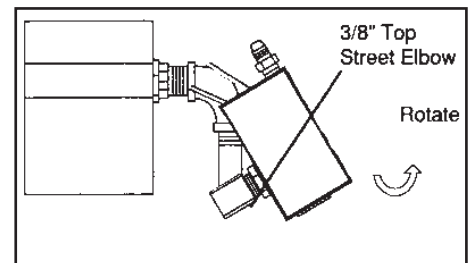

Figure 7
- G. The valve assembly can be rotated to better conceal the controls. Simply rotate the entire valve assembly by turning the top 3/8" Street Elbow with a wrench. (See Figure 7)